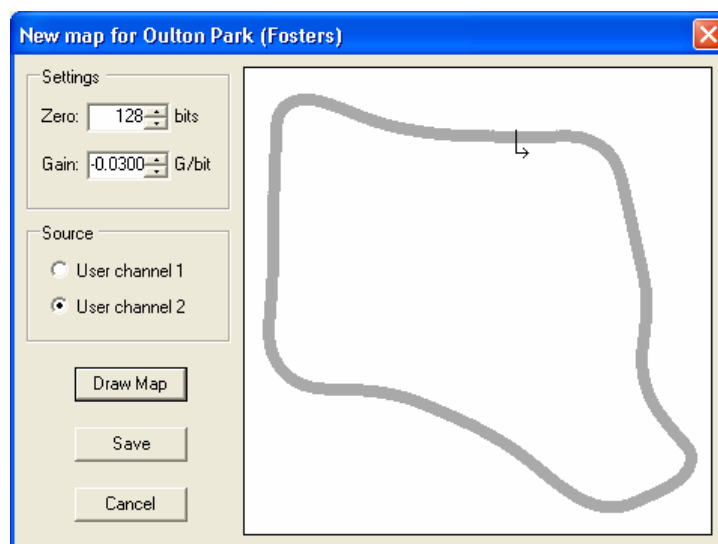

Figure 23 - New Circuit Map Dialog
2. Choose **Map → New** from the main menu or activate the context menu for the lap and select the **Create Map** option. The New Circuit Map dialog (Figure 23) appears.